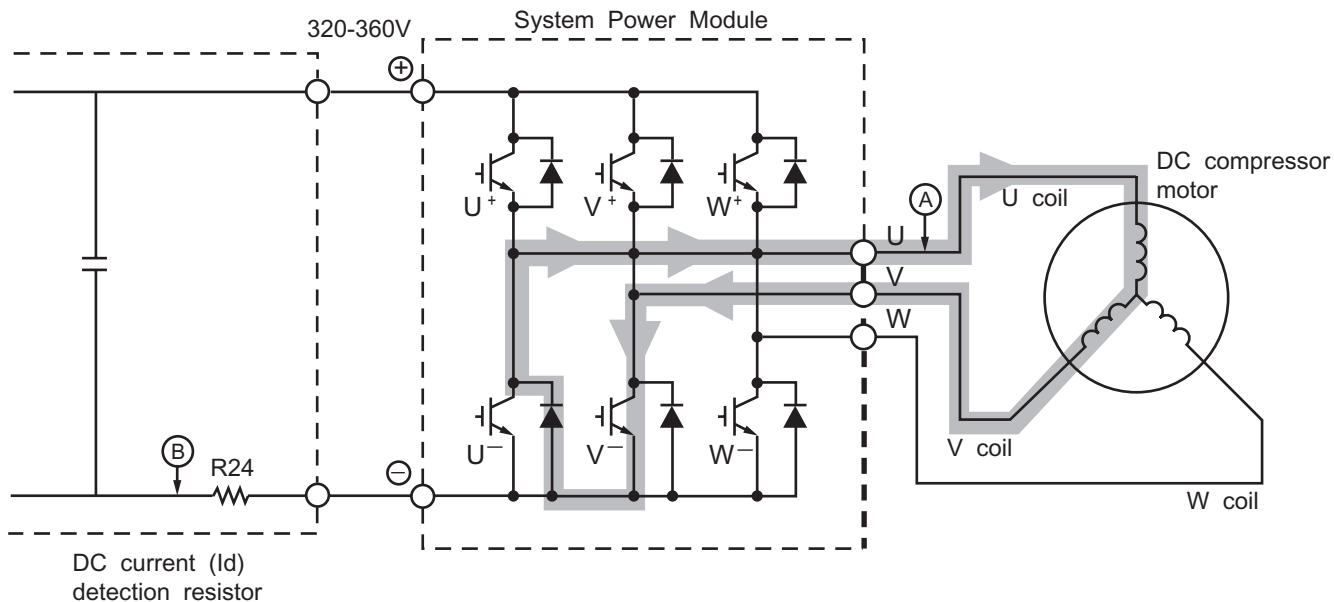

Fig. 3-4 System Power module circuit (U+ is OFF, V- is ON)
※ At point F:  $U^+$  is chopped (OFF),  $V^-$  is ON (circuit in Fig. 3-4)
- (2) When  $U^+$  transistor is OFF: (by inductance of motor coil)  $U \text{ coil} \rightarrow V \text{ coil} \rightarrow V^- \text{ transistor} \rightarrow \text{Return diode} \rightarrow \text{Point } \textcircled{A}$  (Fig. 3-4)